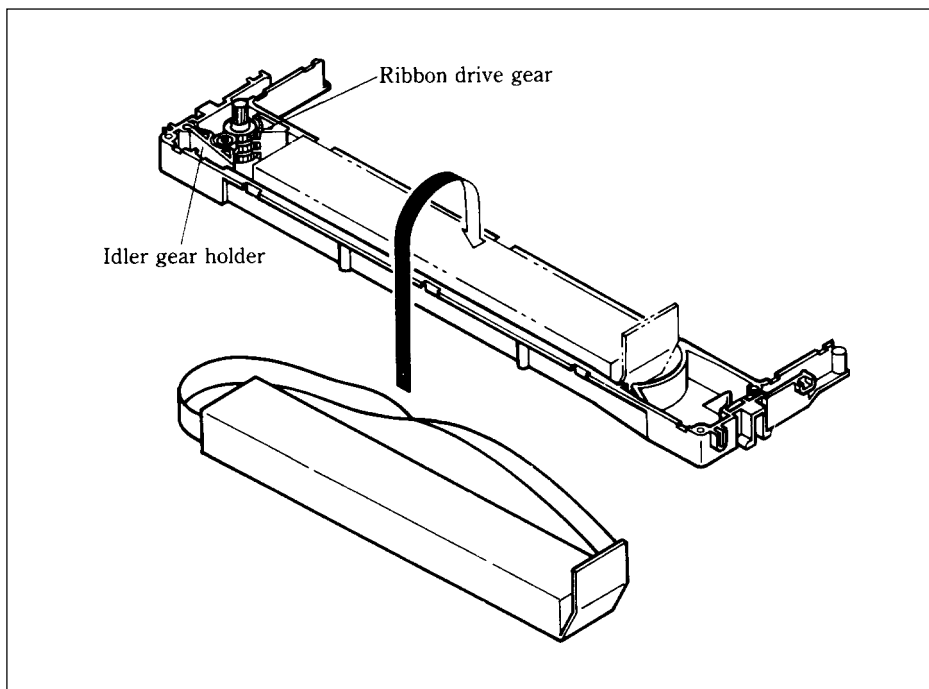

Figure 3-2. Replace the ribbon sub-cassette.
- Press hard against the end of the idler gear holder to make a space between the holder and the ribbon drive gear, and remove the old ribbon and holder. See Figure 3-2.